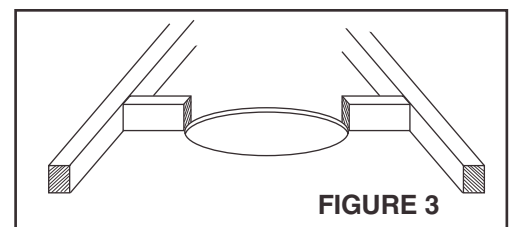

FIGURE 3
If joist spacing is greater than 16" O.C., construct framing to support sides of housing, (**Refer to Figure 3**). Position housing against joists and secure with wood screws through keyhole slots in housing.
4. **Refer to Figure 3.** Secure short pieces of 1" x 3" lumber ($\frac{3}{4}$ " nominal) to joists on either side of opening. Leave approximately $\frac{1}{2}$ " between top of ceiling so that flange of heater housing can slide under spacers. If joist spacing is greater than 16" O.C., cut spacers of 2" x 4" lumber to fit between housing and joists.